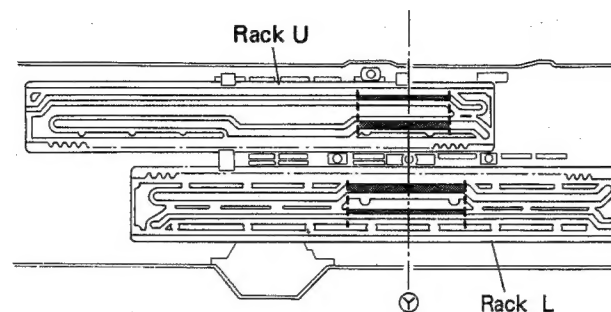

Fig. 3-4
1. Make sure that the positions of rack U and rack L are within the range indicated by the dotted lines in relation to the position of (Y) in Fig. 3-4. (Position at which U, S, and L switches are all OFF.)